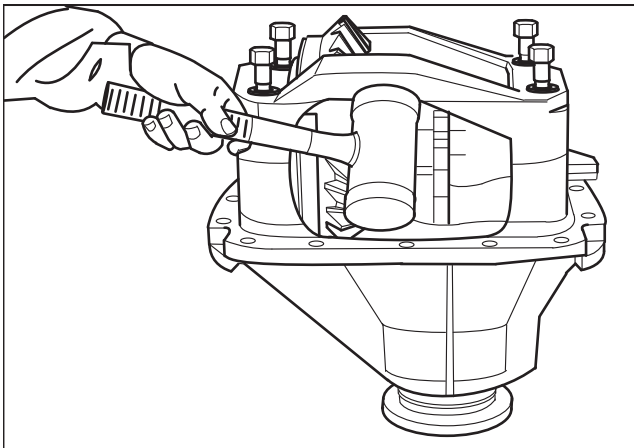

Fig. 2.9
9. With a soft headed mallet, carefully knock the bearing cap off the carrier so that it is dislodged off roll pin. (Fig.2.9)